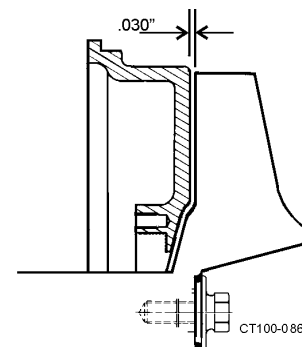
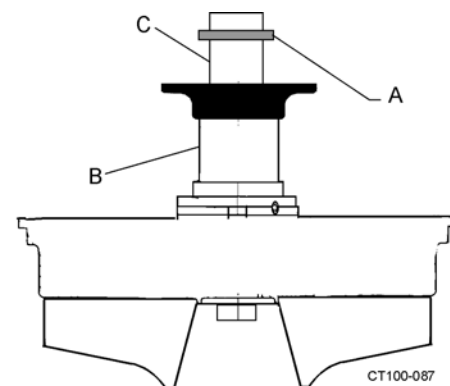

Figure 21 - Clearance Between Impeller and Backplate
Figure 22 - Locations of Shims
22. Check impeller/backplate clearance with the backplate held firmly in position against motor adapter. Check the space between the back of the impeller and the backplate with a feeler gauge (.030 nominal) while holding the backplate tight against the bearing housing flange. (Any axial movement of the shaft should not be added to the .030 nominal clearance). (Figure 21). If needed, change this clearance by adding or removing shims. Shims (Figure 22, item A) are added on the drive shaft (Figure 22, item C) behind the impeller shaft (Figure 22, item B).